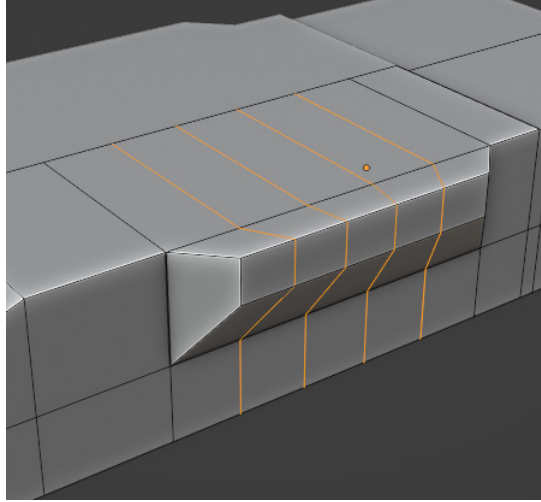

Figure 7.12 – Side loop cuts
12. Add multiple loop cuts around the extruded face, as shown in *Figure 7.12*: